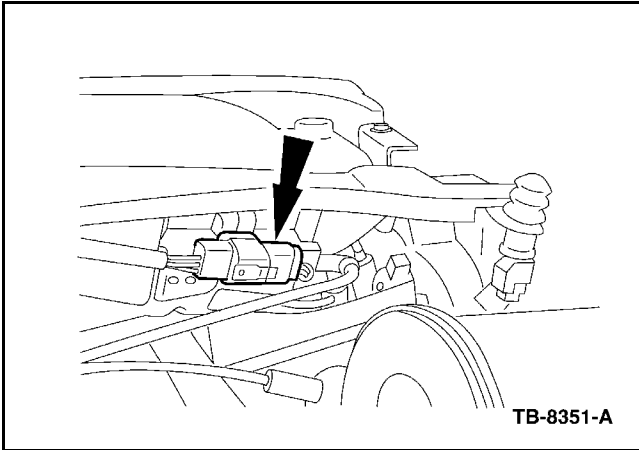

Figure 3 - Article 088-2005-5551
6. Disconnect the electrical connector (Figure 3).